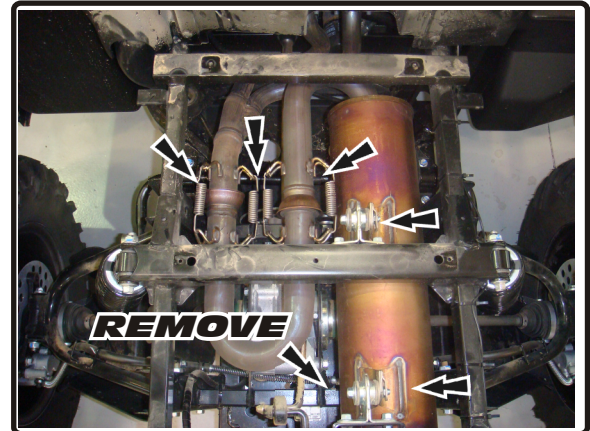

Fig 1
3. Remove stock exhaust springs. (Fig. 1)
8. Remove bracket shown in Fig. 1.